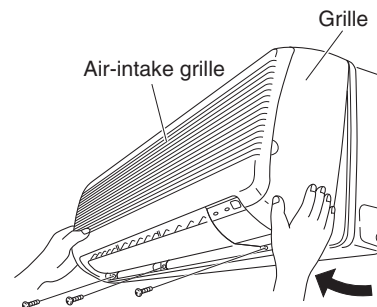
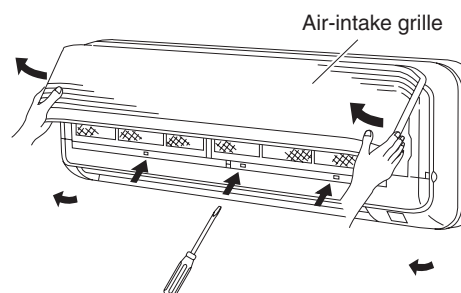

Fig. 1-39a
Fig. 1-39b
- (1) Set the 2 flaps in the horizontal position.
- (2) Unscrew the 3 screws. (Fig. 1-39a)
- (3) Remove the grille.
- (a) Hold both corners of the air-intake grille, then pull out and up to open. (Fig. 1-39b)
- (b) Use a flathead screwdriver to push up the 3 tabs to remove the grille. (Fig. 1-39b)
- (c) Pull the lower part of the grille toward you to remove. (Fig. 1-39a)